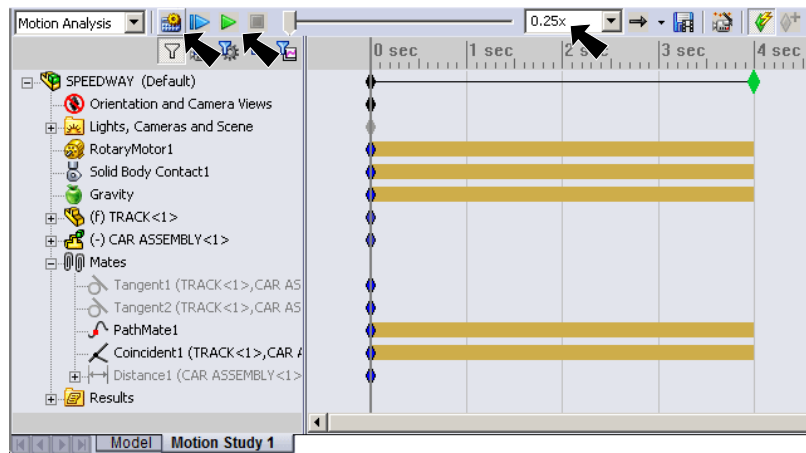

Fig. 26
Step 1. Click **Calculate**  on the Motion Manager toolbar, **Fig. 26**.
Step 2. Set the **Playback Speed** to **.25**, **Fig. 26**.
Step 3. Click **Play from Start**  on the Motion Manager toolbar, **Fig. 26**.